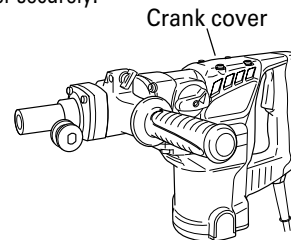

Fig. 18
- Remove the crank cover and wipe off the grease inside. (Fig. 18)